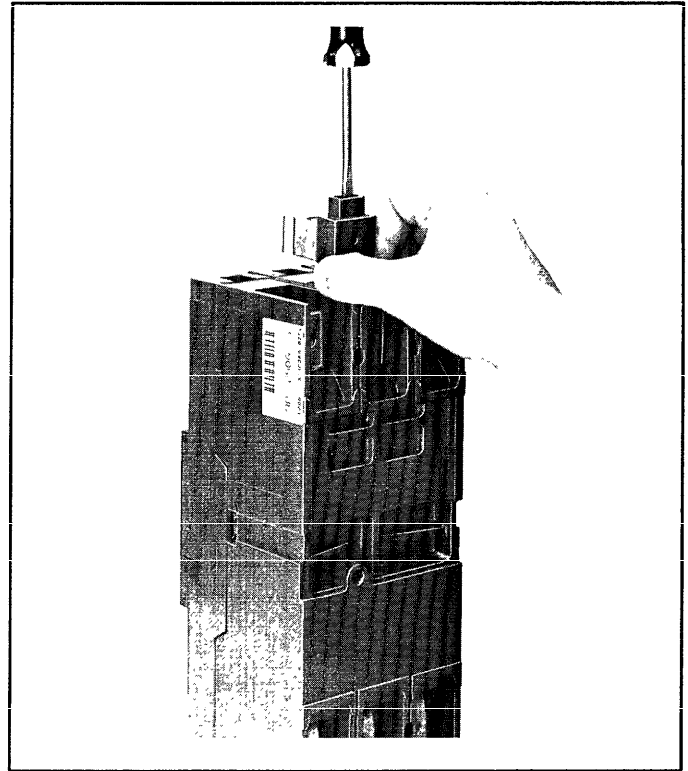
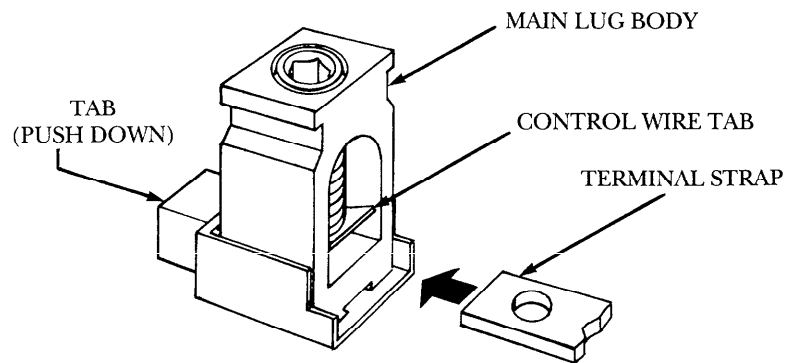

Figure 1. Installing control wire terminal lug.
Figure 2. Terminal strap between control wire tab and main lug body.
2. Holding lug as shown in Figure 1, position the lug on terminal strap with the terminal strap sandwiched between the main body of the lug and the control wire tab as shown in Figure 2.